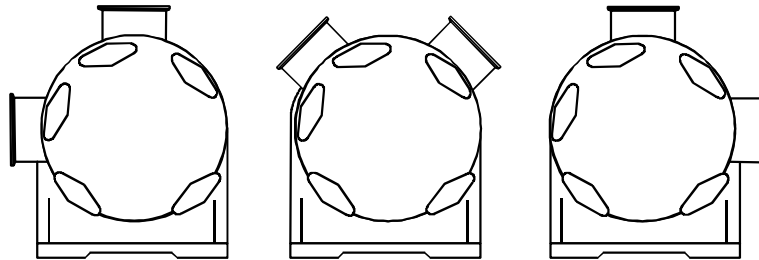

Figure 1
2. The suction and discharge nozzles on the pump housing will always remain 90° apart. However, the pump housing can be rotated in 45° increments to suit your desired nozzle positioning and process needs. Refer to Figure 1 for the three positioning options and to page 22 for instructions on how to rotate the pump housing.